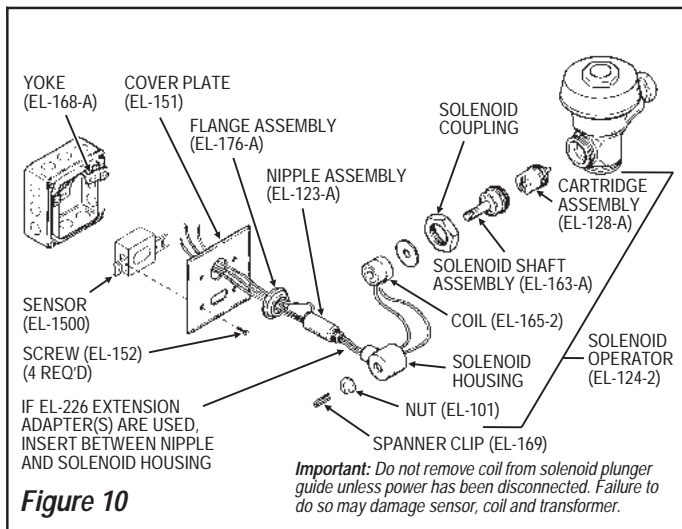

Figure 10
EXPOSED FLUSHOMETER INSTALLATIONS — MODELS 180 ES-S & 186 ES-S (Figure 10)
Step 9 — Install Sensor Cover Plate (Figure 10)
Step 10 — Secure Solenoid Housing and Coil Assembly (Figure 10)
- B. **EL-128-A Cartridge is fouled or jammed (refer to Figure 10)** — Turn off power to valve. Remove Solenoid Operator from valve and remove EL-128-A Cartridge. Clean and/or replace as necessary.
- A. **EL-163-A Solenoid Shaft Assembly is fouled or jammed (refer to Figure 10)** — Turn off power to valve. Remove Coil from Solenoid Operator. Using a spanner wrench or pliers, remove EL-163-A Solenoid Shaft Assembly from Valve. Clean and/or replace as necessary.